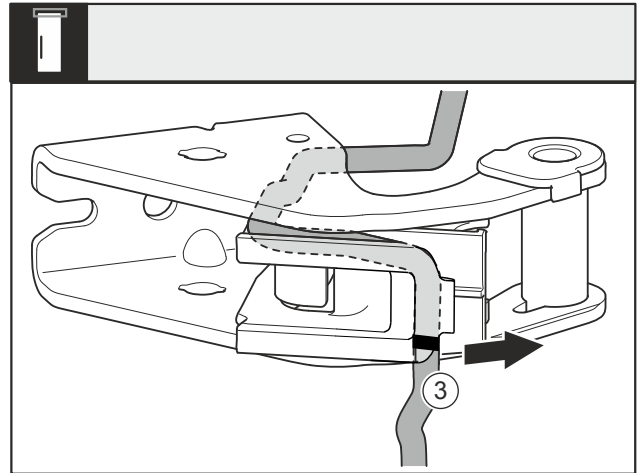

Fig. 16
- Remove the cable with the cable holder Fig. 16 (3) from the swap bearing block.